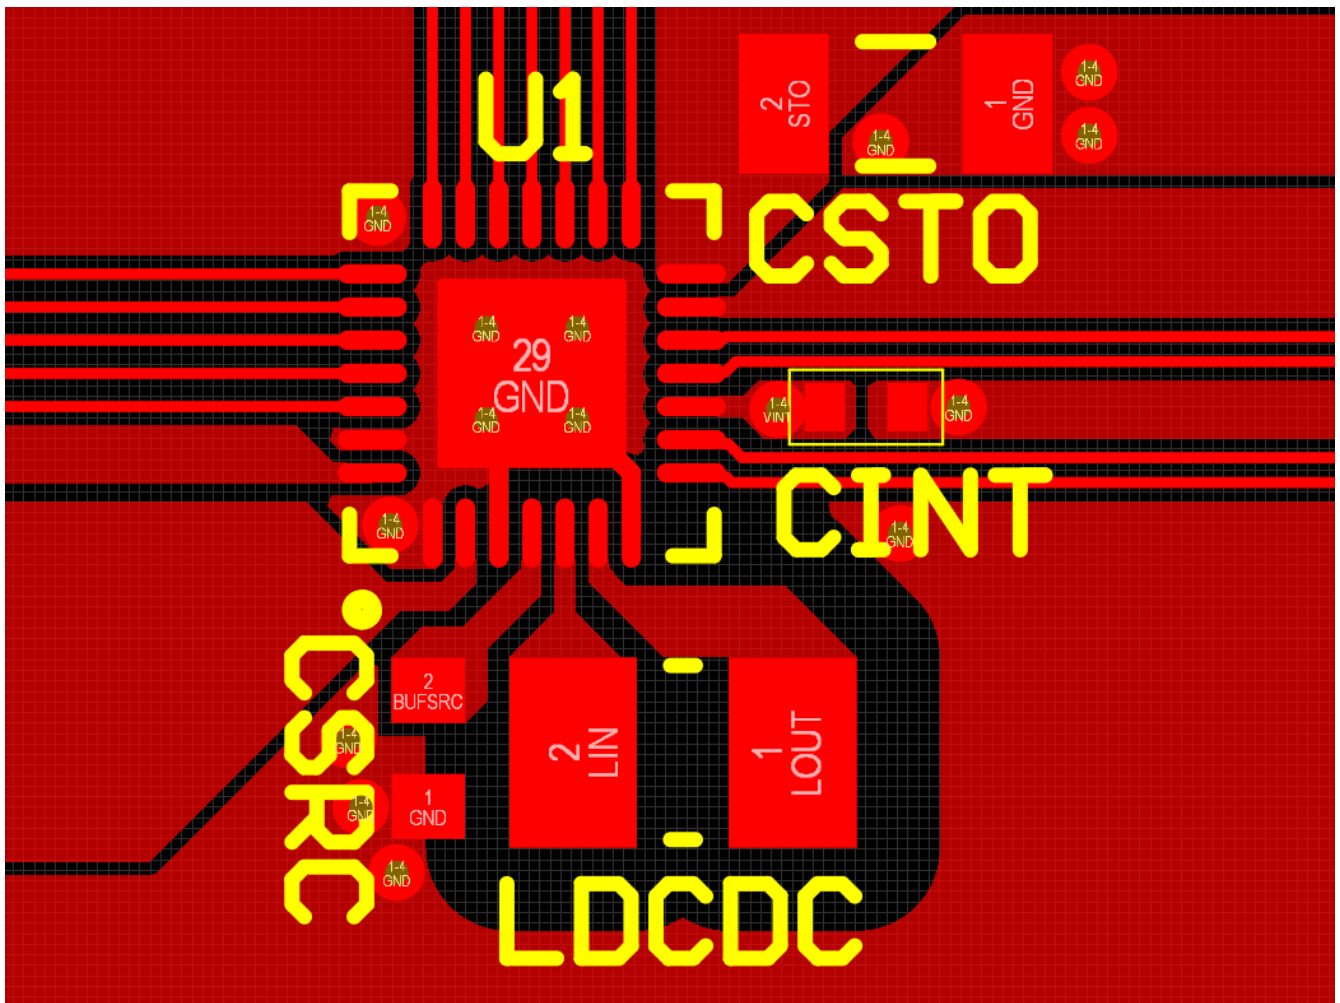

Figure 15: Layout Example for the AEM00300 and its Passive Components
- The switching nodes (LIN and LOUT) must be kept as short as possible, with minimal track resistance and minimal track capacitance. Low resistance is obtained by keeping track length as short as possible and track width as large as possible between L_{DCDC} and the AEM00300 pins. Minimal capacitance is obtained by keeping distance between LIN/LOUT and other signals. We recommend removing the ground plane, the power plane and the bottom layer ground pour under L_{DCDC} footprint, as well as adding distance between LIN/LOUT and the top ground pour, as shown on Figure 15.